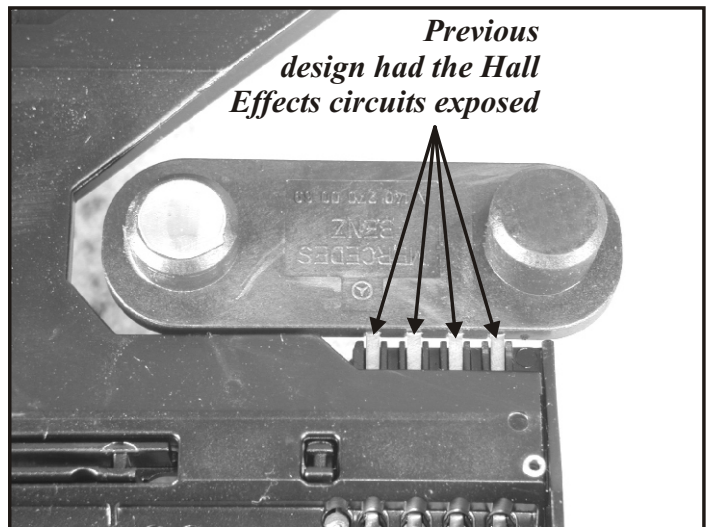

Figure 49
1. A previous design conductor plate had exposed the Hall Effect Sensor's circuit to the main body of the conductor plate (See Figure 49). This style plate will need to be updated to one that had these circuits covered as seen in Figure 50 (**Part #A140 270 0861**).